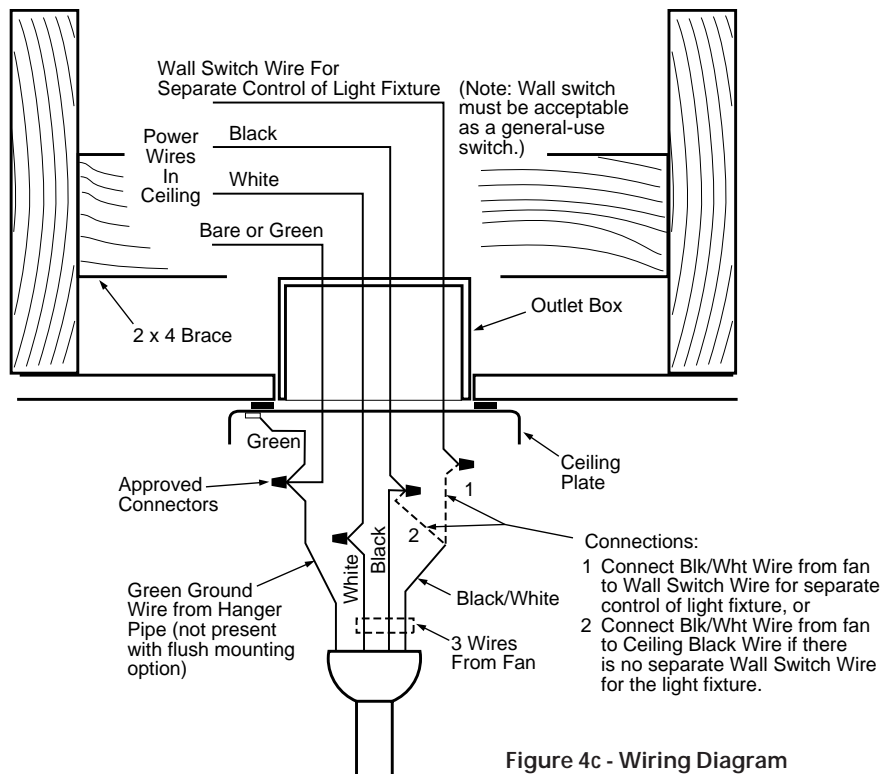

Figure 4c - Wiring Diagram
4. Connect the wires as shown in Figure 4c. To connect the wires, twist the bare metal leads together. Place a wire nut over the intertwined length of wire and twist clockwise until tight as shown.